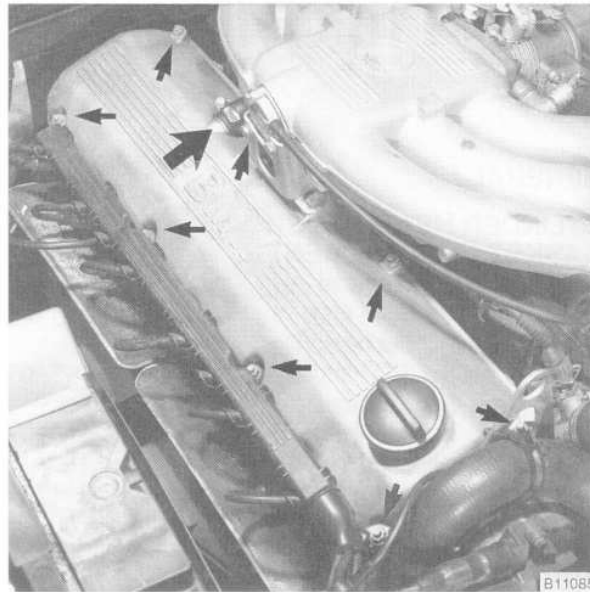

Fig. 2. Breather hose and cylinder head cover mounting nuts (arrows).
2. Disconnect the breather hose from the cover and remove the eight cover mounting nuts. See Fig. 2.